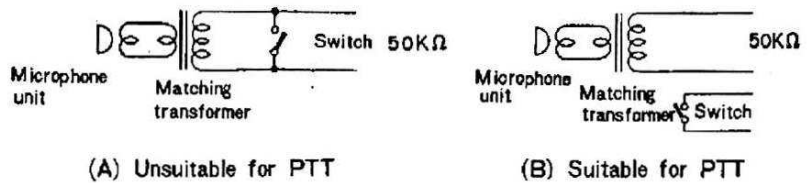

Fig. 12 Microphone with a switch
A 50 K $\Omega$  dynamic microphone or crystal microphone, equipped with a switch, is recommended. Fig. 12 shows two types of switching arrangements ordinarily offered in microphones. Type (B) switching is suitable for PTT operation since, in this configuration, the switching circuit is independent of the microphone circuit, while in type (A) the microphone circuit is simply shorted.